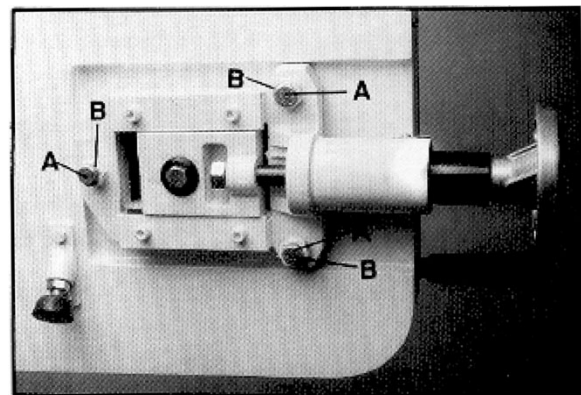

Figure 9
- Loosen the three bolts (A, Figure 9) located on the top of the tracking nuts.
- Tracking adjustment is accomplished by either loosening or tightening three adjusting nuts (B, Figure 9).
- Tighten locking bolts (A, Figure 9) once proper tracking is completed.